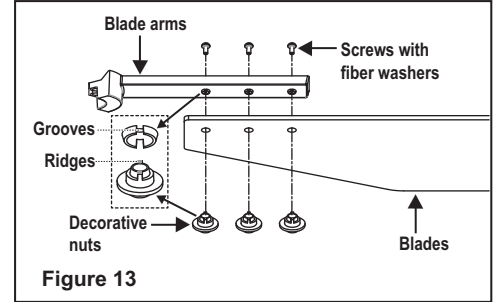

Figure 13
Step 1. Attach the blades to the blade arms using three decorative nuts, screws and fiber washers by lining up the grooves of the decorative nut with the ridges on the blade arms. (Fig. 13)